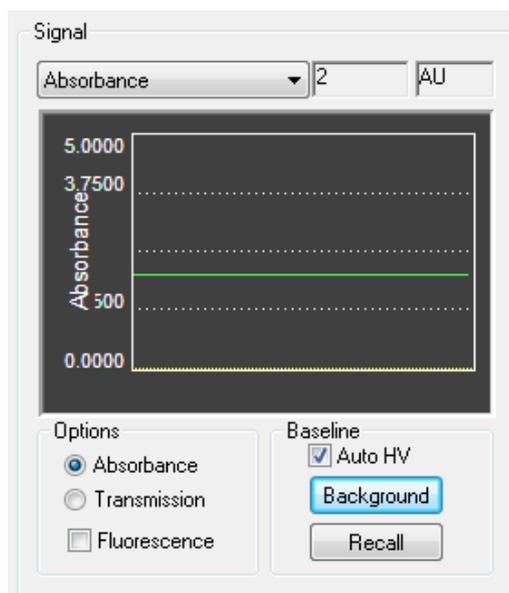

Figure 2.42: the Signal panel for steady state absorbance
1) On the **Signal** panel of the Pro-Data SCP (Figure 2.42) select **Absorbance** from the drop down list. If the instrument is equipped with two data acquisition channels then by ticking **Fluorescence**, data can be simultaneously acquired from the fluorescence detector.